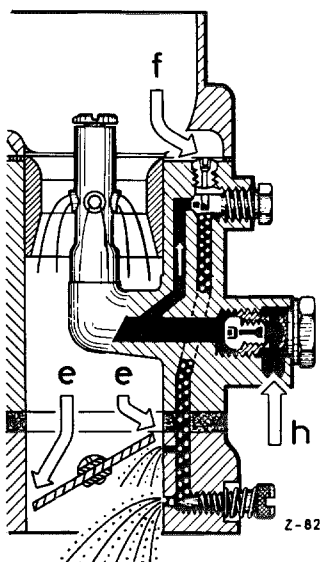

Fig. 07-0/8
When the throttle valve is being slightly opened, idle mixture flows through both the idle mixture bore (41) and the by-pass bores (42). The by-pass bores now serve to ensure a proper change-over to the main carburetion system (Figs. 07-0/7 and 07-0/8).